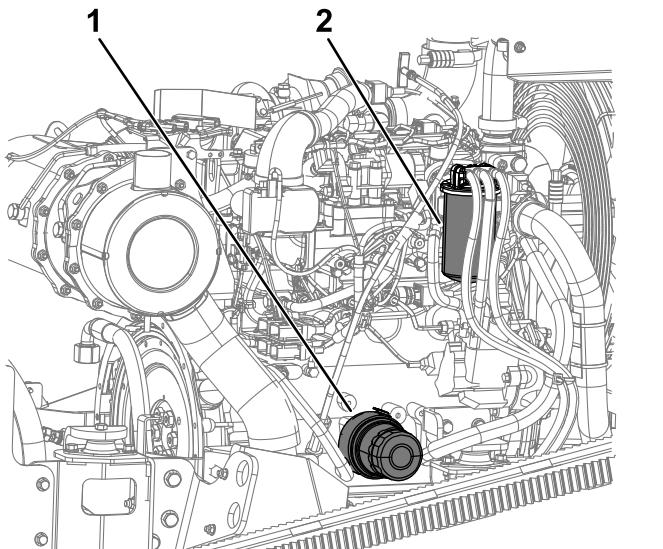

Figure 96
2. Remove the filter and clean the filter-head-mounting surface (Figure 96).
1. Clean the area around the fuel-filter head (Figure 96).